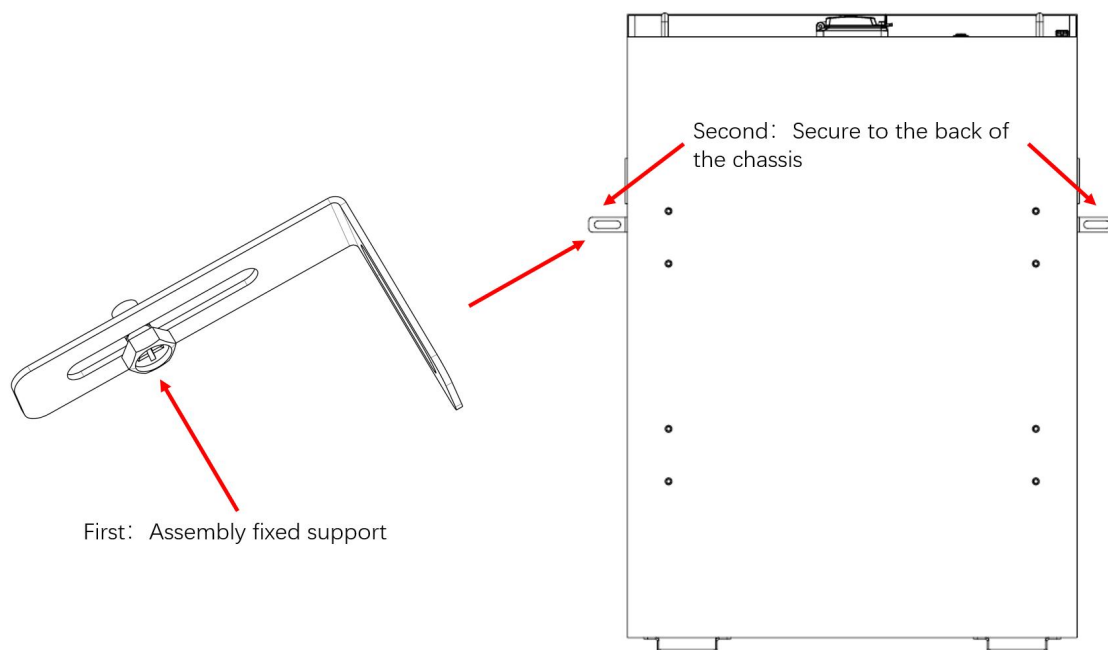

Figure 5-4
a) Use the 4 screws of M6*10 to fix the left and right retaining ears to the back of the battery, as shown in Figure 5-4.